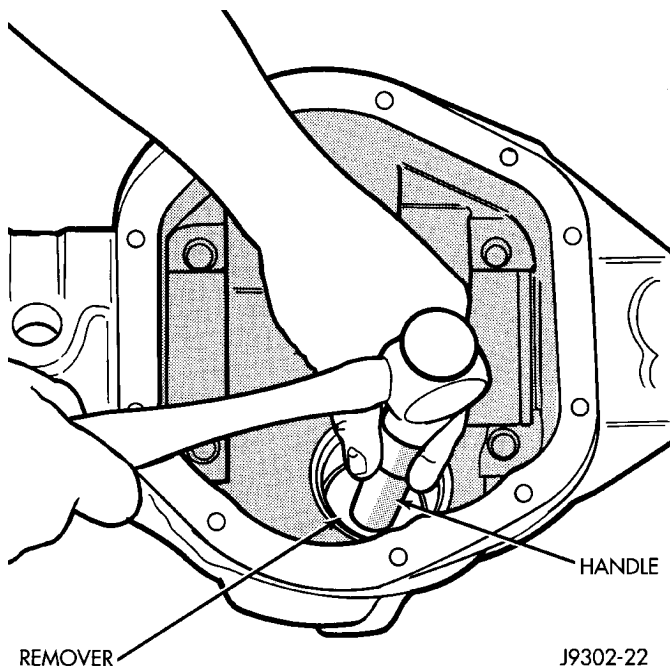

Fig. 39 Front Bearing Cup Removal
(7) Remove the pinion seal with a slide hammer or pry out with bar.
(8) Remove oil slinger, if equipped, and the front pinion bearing.
(9) Remove the front pinion bearing cup with Remover D-103 and Handle C-4171 (Fig. 39).